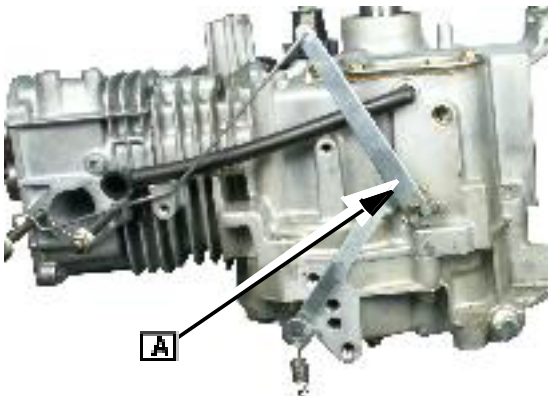

Fig. 23
2. Position governor lever in position as shown in ([A] Fig. 23).